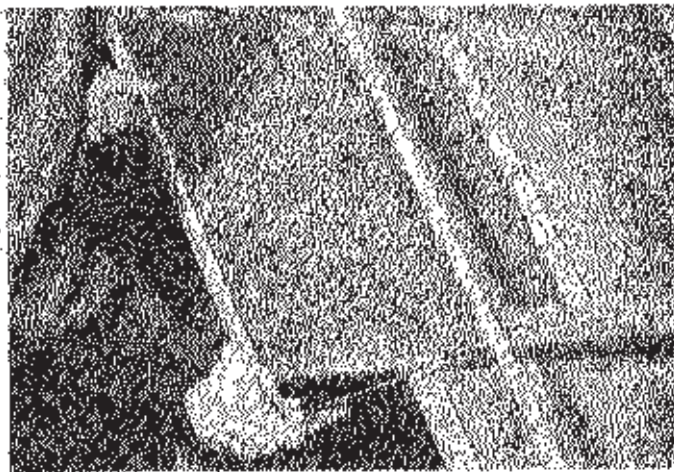

FIGURE 122
- 1 - Remove access panel from the dampen filter cabinet to expose banks of filters. Grasp the bracket on chain at bottom of each bank. Simply pull chain and bring out filters. Refer to Figure 122.